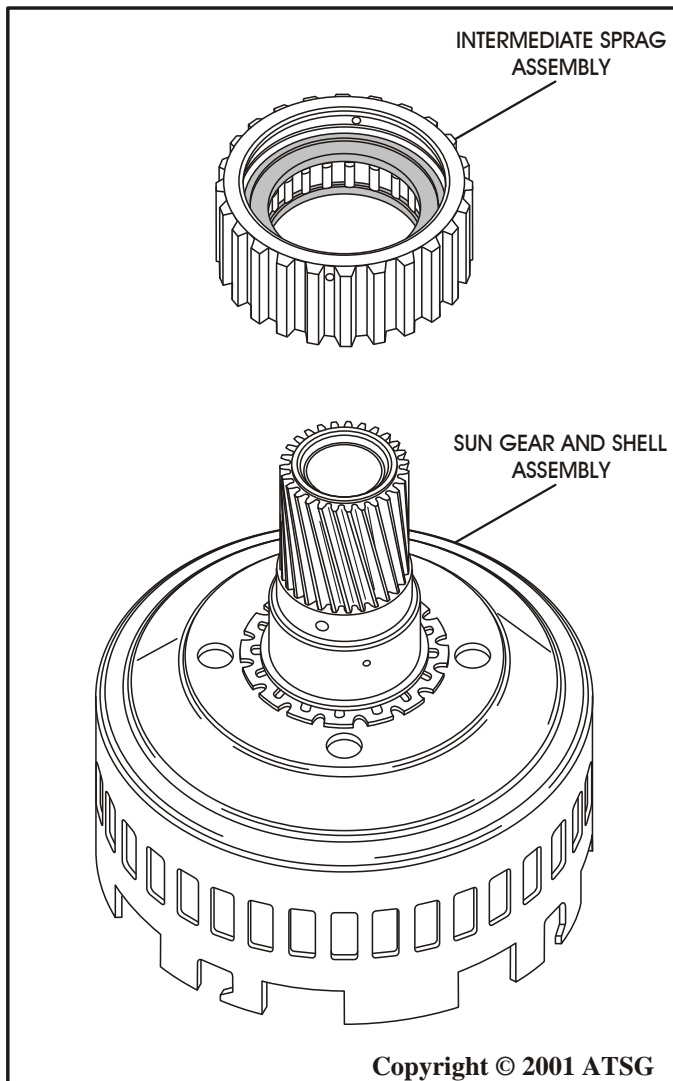

Figure 110
11. Install completed intermediate sprag assembly onto sun gear and shell assembly assembly by rotating in a clock-wise direction, as shown in Figure 110.